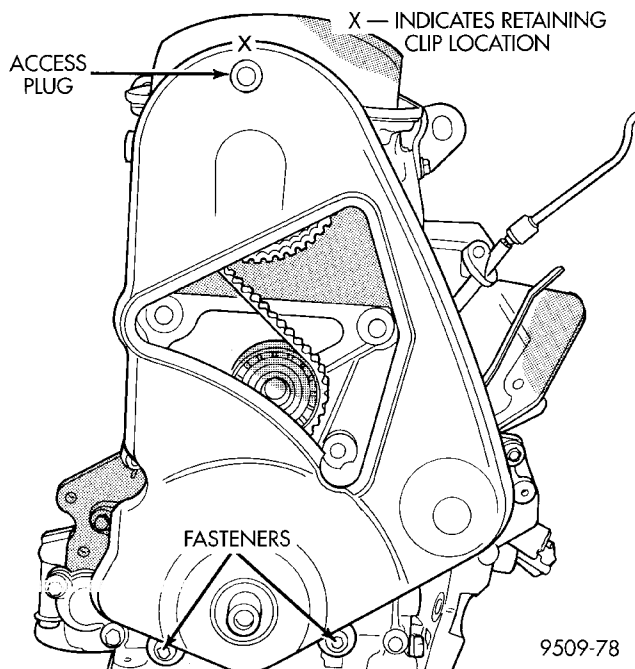

Fig. 46 Timing Belt Cover
- (7) Remove front timing belt cover (Fig. 46).